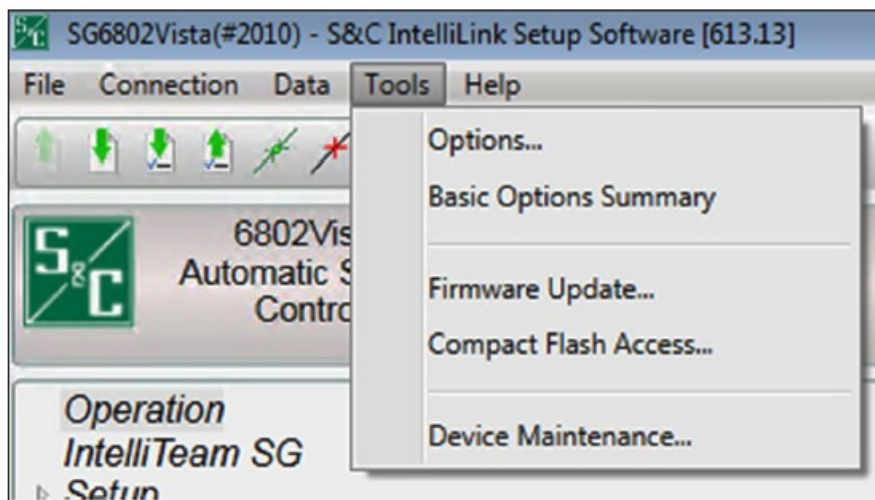

Figure 31. The Tools>Firmware Update Menu option.
- **STEP 13.** In the Tools menu on the menu bar, click on the Firmware Update menu item. See Figure 31.